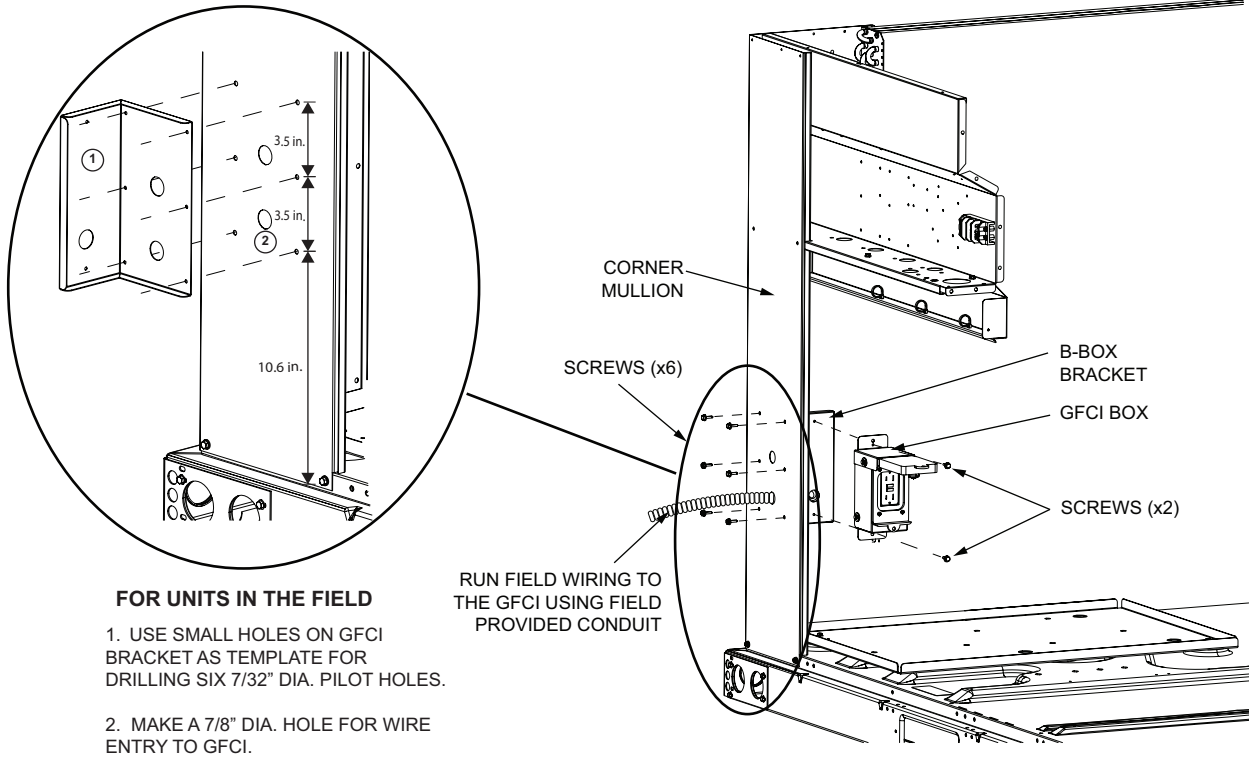

FIGURE 9
- 4 - For ZG/ZC/ZH 092 to 150 units without disconnect, the GFCI will be mounted on the B Box bracket then secured to the corner mullion. For existing units in the field use the mounting bracket as a template for pilot holes. See FIGURE 9.